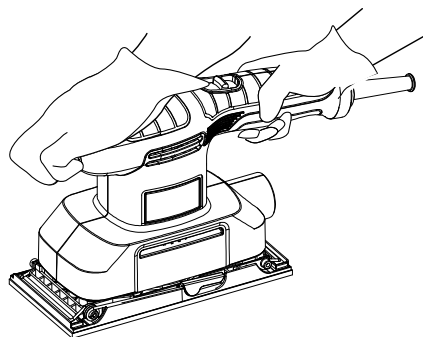

Fig. 18
- > Hold the product with one hand on the handle (5) and with the other hand on the gripping surface (2) (Fig. 18).